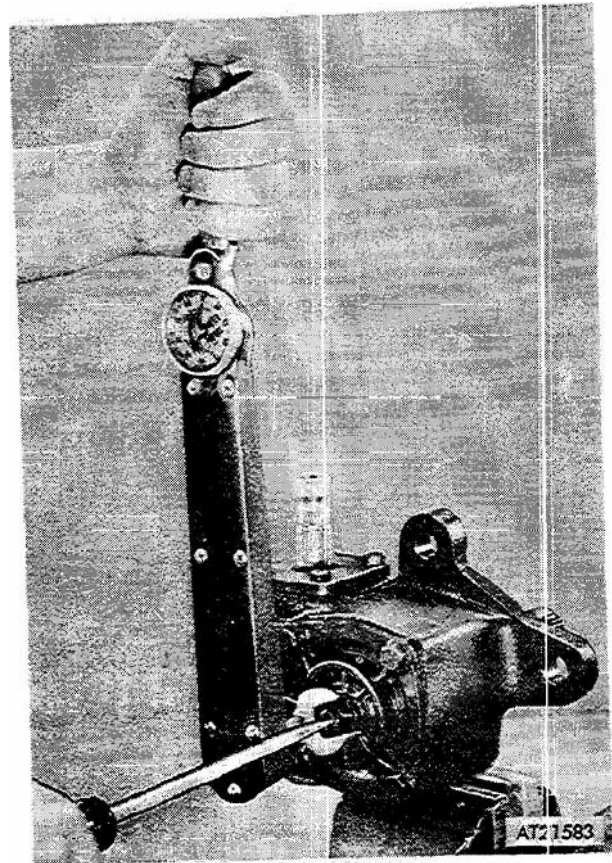

Figure 3-210. Securing front steering gear box adjustment screw.
(4) Turn screw (6) and recheck preload until proper preload is obtained. Hold screw stationary and tighten nut (1) to 16-20 lbs-ft. torque (fig 3-210).